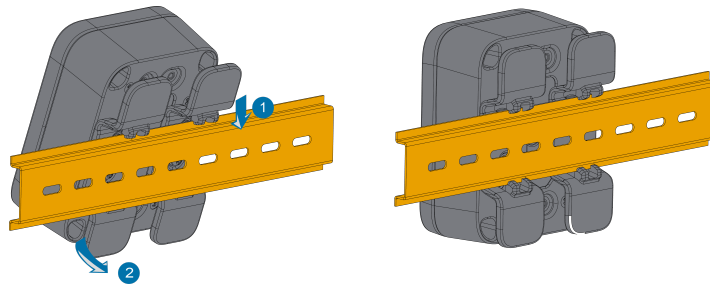

Figure 25: Fixing the enclosure on the DIN rail
3. Lastly, clamp the buckle of the DIN mount kit at one end on the edge of the DIN rail, then rotate and press the enclosure to clamp the other end as shown in **Figure 25**.